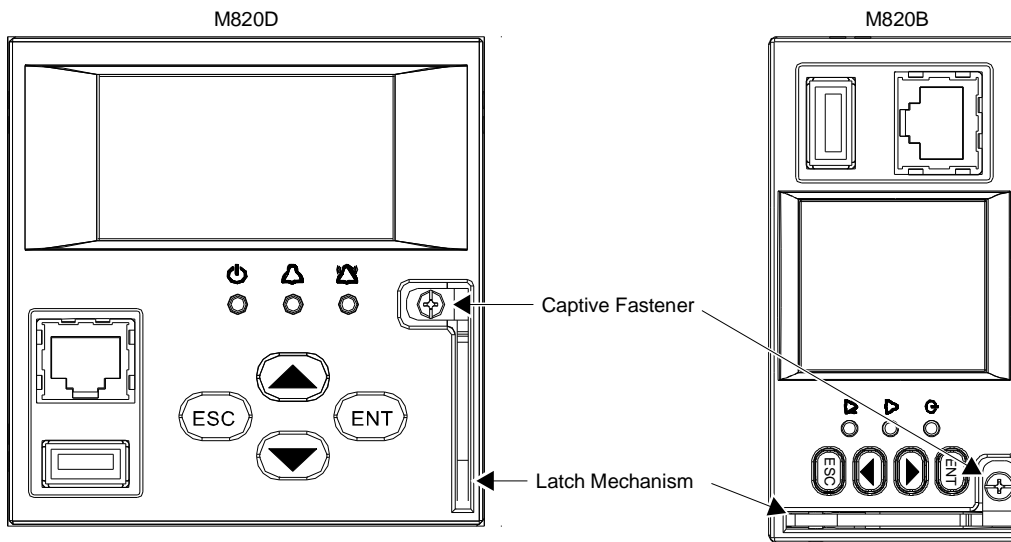

Figure 10
- 4) Loosen the captive fastener securing the latch mechanism to the front of the ACU+ Controller. Pull the latch mechanism away from the ACU+ Controller (this will retract the latch mechanism located on the bottom of the ACU+ Controller). This unlocks the ACU+ Controller from the shelf. Refer to Figure 10.